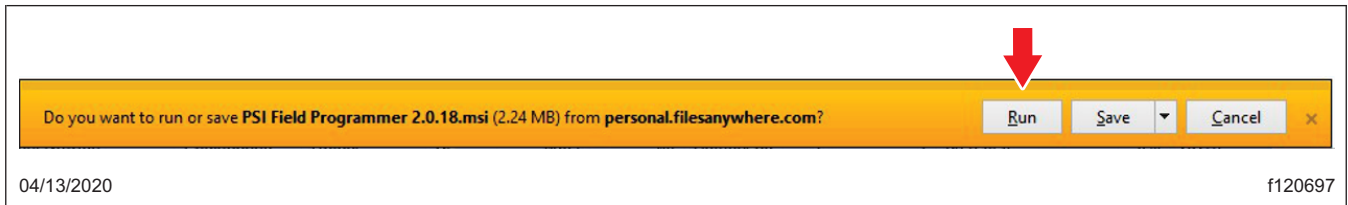

Fig. 4, Selecting Run
- Then select 'Run' at the bottom of the screen. See Fig. 4.